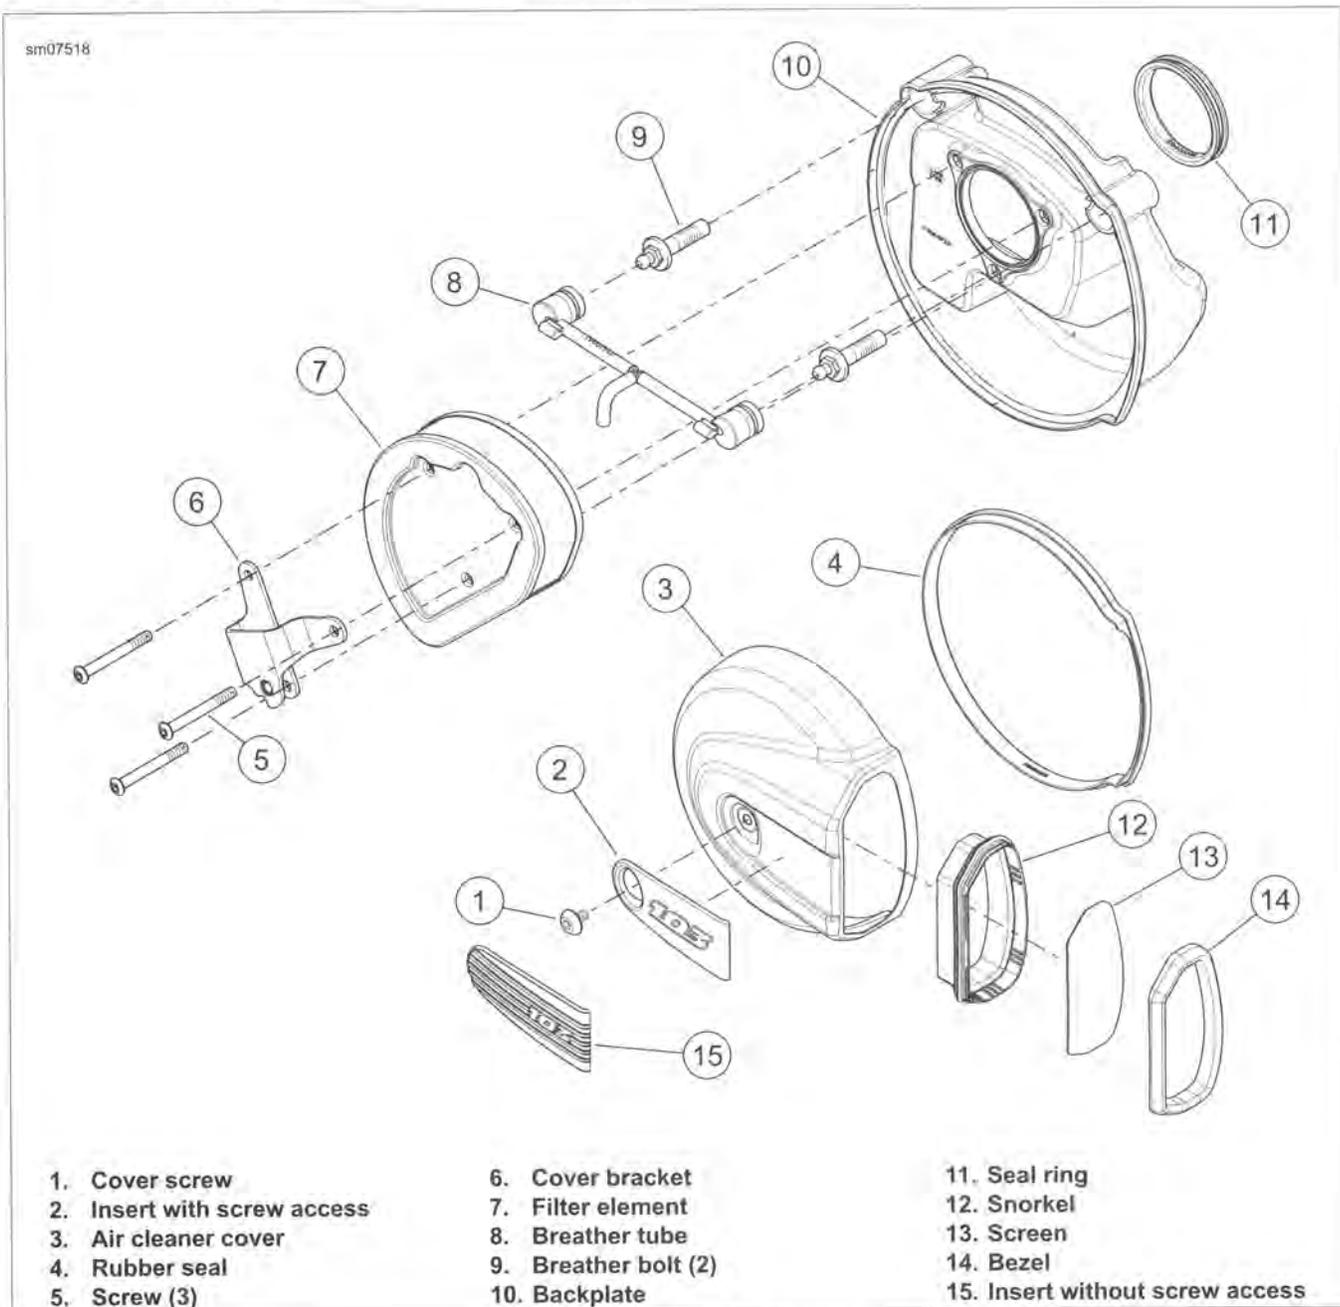

Figure 4-6. Air Cleaner Assembly
1. See Figure 4-6. Remove air cleaner cover and filter. See 1.7 AIR CLEANER AND EXHAUST SYSTEM.
2. Remove breather tube (8) from fittings on breather bolts.
3. Remove two breather bolts (9).
4. Remove backplate (10).
5. Remove seal ring (11) from backplate. Discard seal ring.
1. See Figure 4-6. Install seal ring (11) on backplate (10).
2. Install backplate with breather bolts (9). Tighten to 22-24 ft-lbs (29.8-32.5 Nm).
3. Install breather tubes (8) onto breather bolts.
1. See Figure 4-6. Remove air cleaner cover (3).
2. Apply heat from a heat gun to inside of cover in area of cover insert (2).
1. See Figure 4-6. Pull on front edge of insert (15) to remove.
4. Carefully align **new** decorative plate with retainer material attached. Press and hold in position on cover (3) for 10 seconds.
1. See Figure 4-6. Pry bezel (14) off. A pry point is provided on the bottom of the bezel rim.
2. Remove snorkel (12) from cover.
3. Replace screen (13) if necessary.